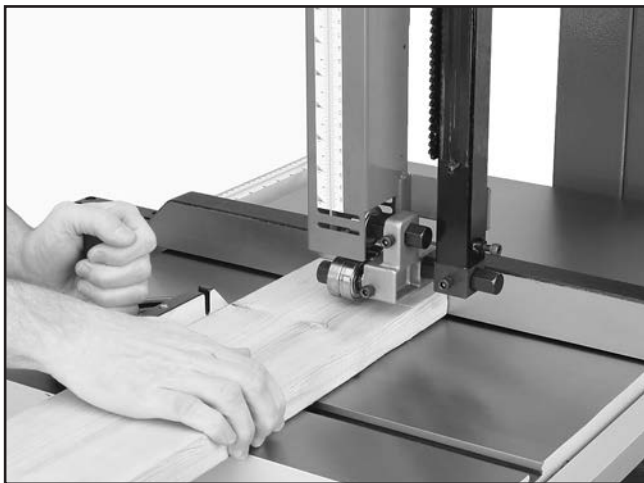

Figure 32. Typical crosscutting operation.
5. After all safety precautions have been met, turn the bandsaw **ON**. Slowly feed the workpiece into the blade and continue the cut until the blade is all the way through the workpiece. **Figure 32** shows a typical crosscutting operation.